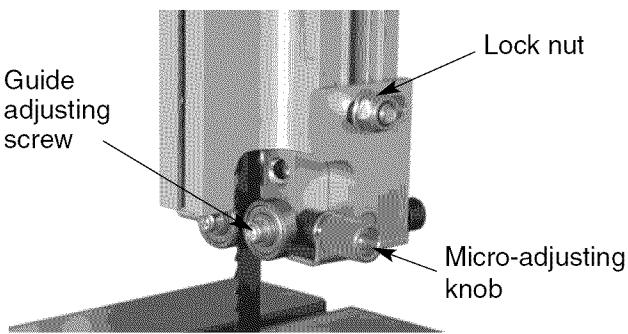

Figure 24 - Adjusting Blade Guides
Refer to Figures 24, 25 and 26.
- To adjust the upper blade guides, first position the right and left roller guides relative to the blade by loosening the lock nut (see Figure 24) and moving the guide carrier until both roller guides are approximately $\frac{1}{16}$ " behind the gullets of the saw blade.
- Set both roller guides to within $\frac{1}{32}$ " of the saw blade by releasing the guide adjusting screw (see Figure 24) on each side of the saw blade through turning the micro-adjusting knobs. Do not set the roller guides too close as this will adversely affect the life of the saw blade.